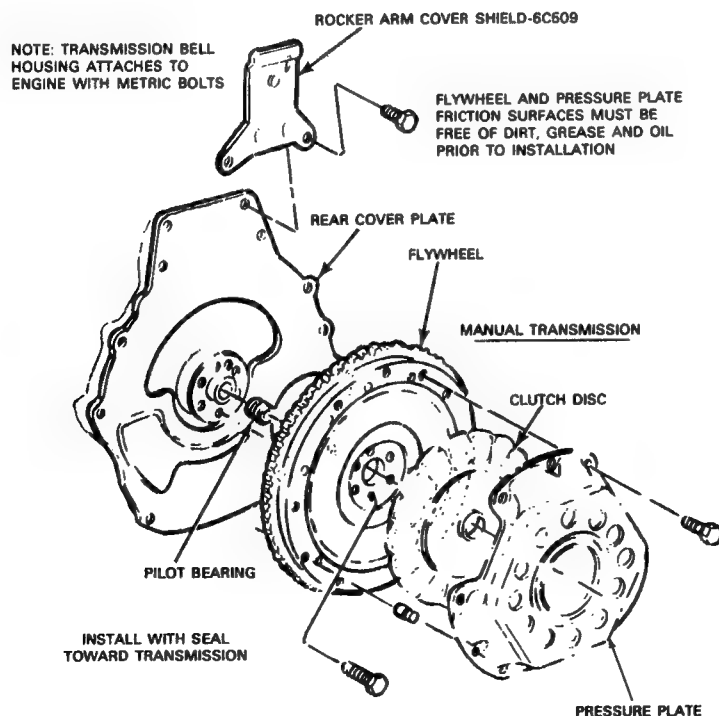

FIG. 50 Flywheel Installation
3. Tighten the filter 1/2 turn after the gasket contacts the cylinder block. Fig. 50.